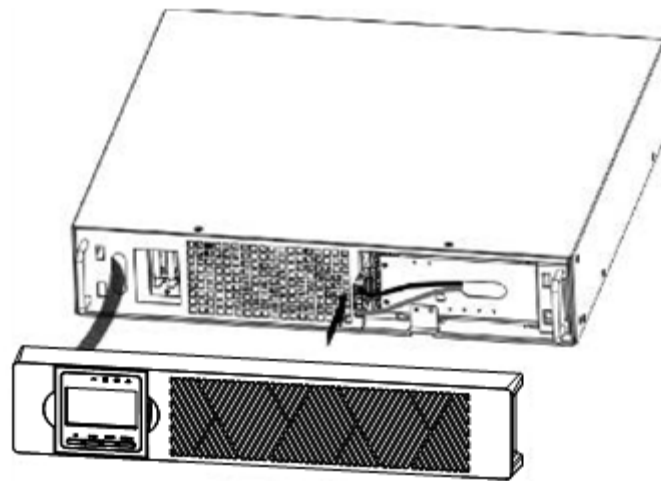

Figure 6: Connecting the UPS internal batteries
- b) Connect the internal battery connector (see Figure 6). Connect red to red, Press the connector tightly together to ensure a proper connection.